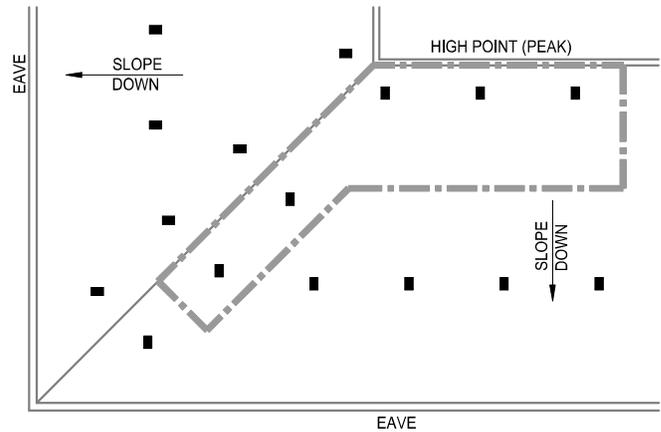

FIGURE 24B
- Calculation #1: Calculate the 3 most hydraulically demanding contiguous DS sprinklers located along the high point (peak) plus the 2 most demanding sprinklers along the hip line. See Figure 24B.